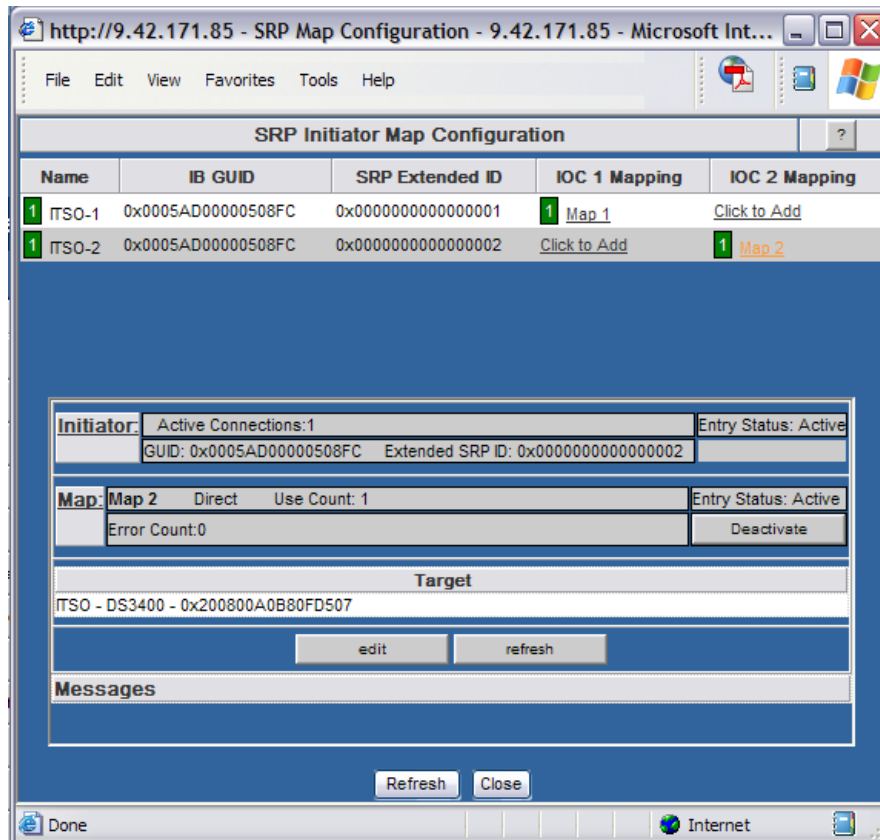

Figure 4-71 Active Direct SRP Map
25. On the bridge web GUI, the boxes beside the SRP initiator name and the IOC Map name indicate the active connections to the virtual HBA, as shown in Figure 4-71. It should go from 0 to 1. You might need to click **Refresh** on the SRP map page.